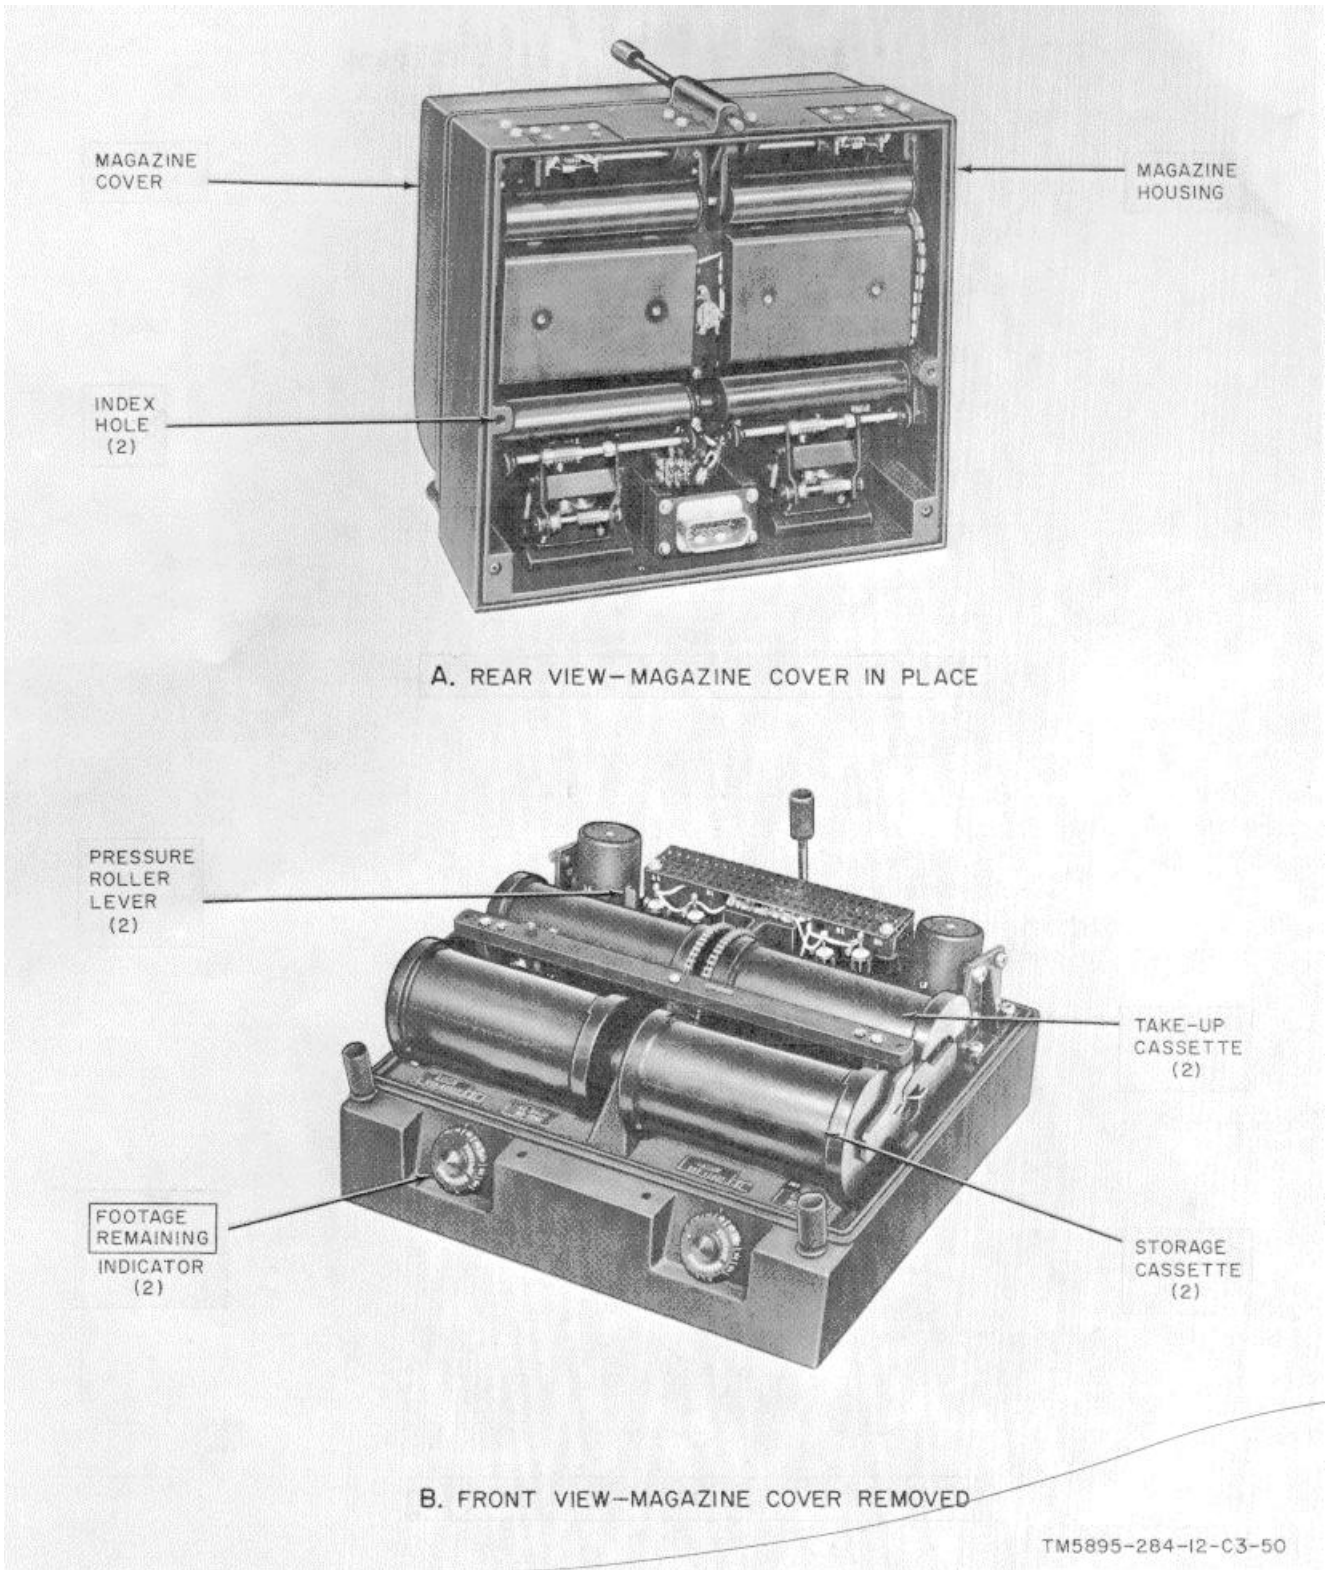

Figure 1-9. 5-inch strip-film magazine (p/o RO-225A/APS-94A).
c. The 5-inch strip-film magazine (fig. 1-9) contains the film rapid advance mechanism, two storage cassettes, two takeup cassettes, two FOOTAGE REMAINING indicators, and a heater subassembly (not shown). The storage cassette contains the unexposed film, and the takeup cassette receives the film that is pulled from the storage cassette during the radar filming program. The FOOTAGE REMAINING indicators are